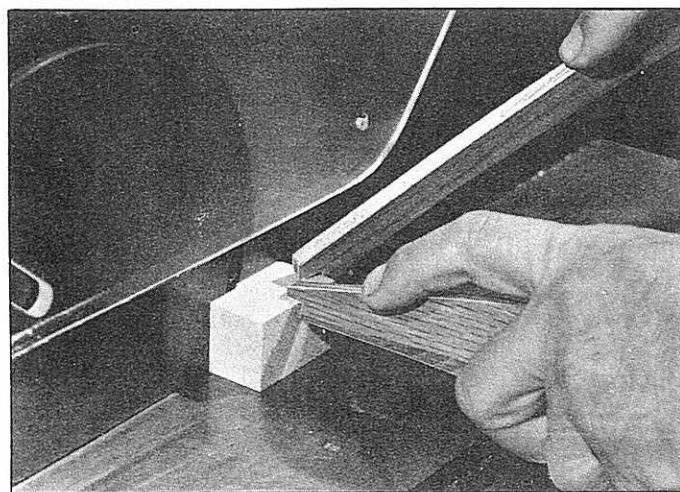

Fig. 38.
4. When working small pieces, always use two push sticks, as shown in Fig. 38. Push sticks can easily be made out of scrap material.